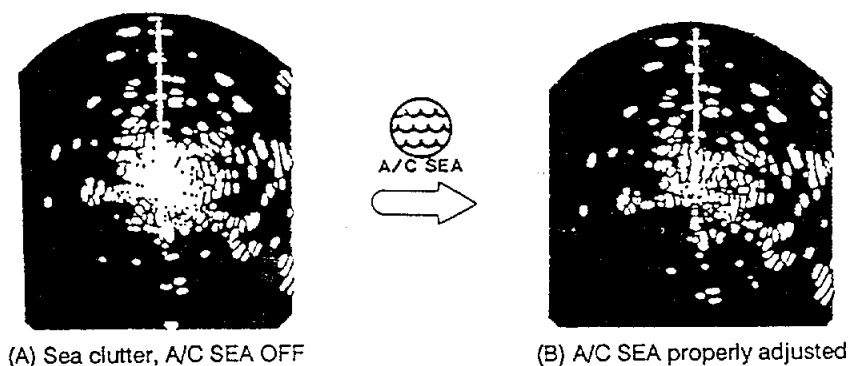

Figure 2-6 Adjusting the A/C SEA Control
Echoes from waves can be troublesome, covering the central part of the display with random signals known as "sea clutter." The higher the waves, and the lower the scanner above the water, the further the clutter will extend. Sea clutter appears on the screen as a many small echoes which might affect radar performance (see Figure 2-6 (A)). The A/C SEA control reduces the amplification of echoes at short ranges (where clutter is the greatest) and to progressively increase amplification as the range increases, so amplification will be normal at those ranges where there is no sea clutter. The control is effective up to about 4 miles.
If the control is not sufficiently advanced, other targets will be hidden in the clutter, while if it is set too high, sea clutter and targets will both disappear from the screen. In most cases turn the control clockwise until clutter has disappeared to leeward, but a little is still visible windward. Figure 2-6 illustrates how to adjust the control.